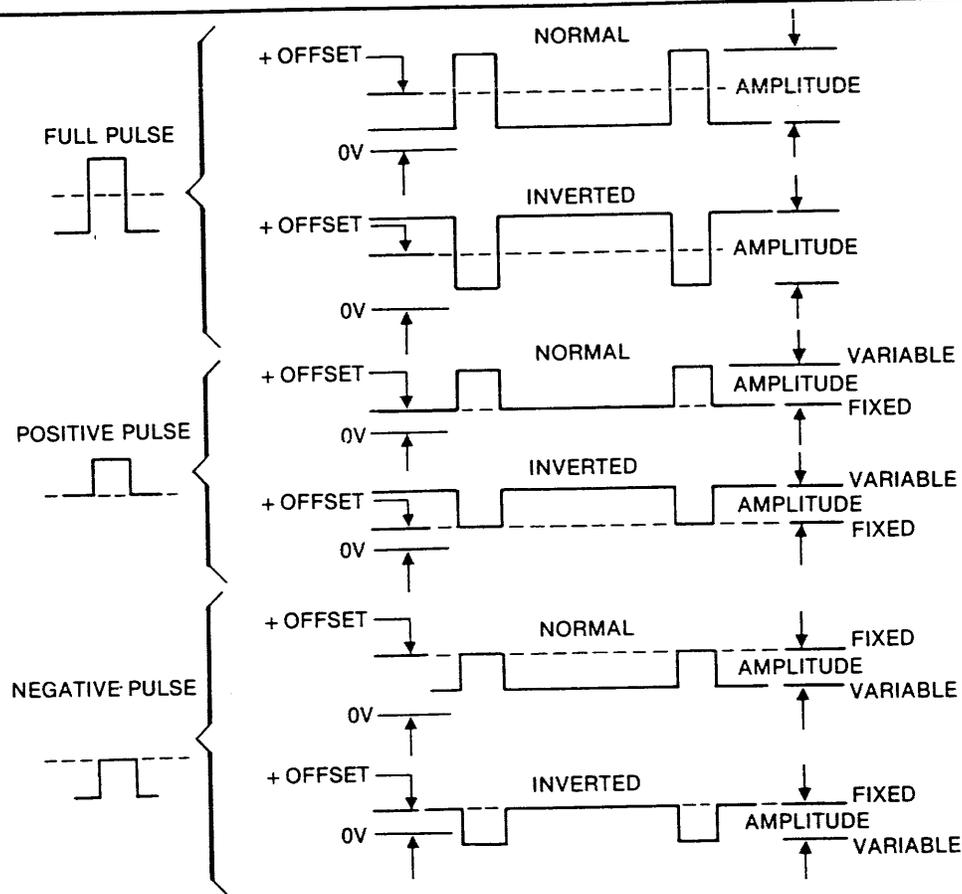

Figure 3-2. PULSE/SQUARE OUTPUT Amplitude/Offset Relationship
- 7 PULSE/SQUARE OUTPUT** — Selects the pulse amplitude symmetry relative to the baseline (ref: figure 3-2). With DC OFFSET **11** off, the baseline is 0 volts. With DC OFFSET on, the baseline is varied by the DC OFFSET control **13**.
| 9 | DC OFFSET | 11, 13 Set as desired. Limit pulse amplitude as necessary to prevent clipping (see figure 3-2). |